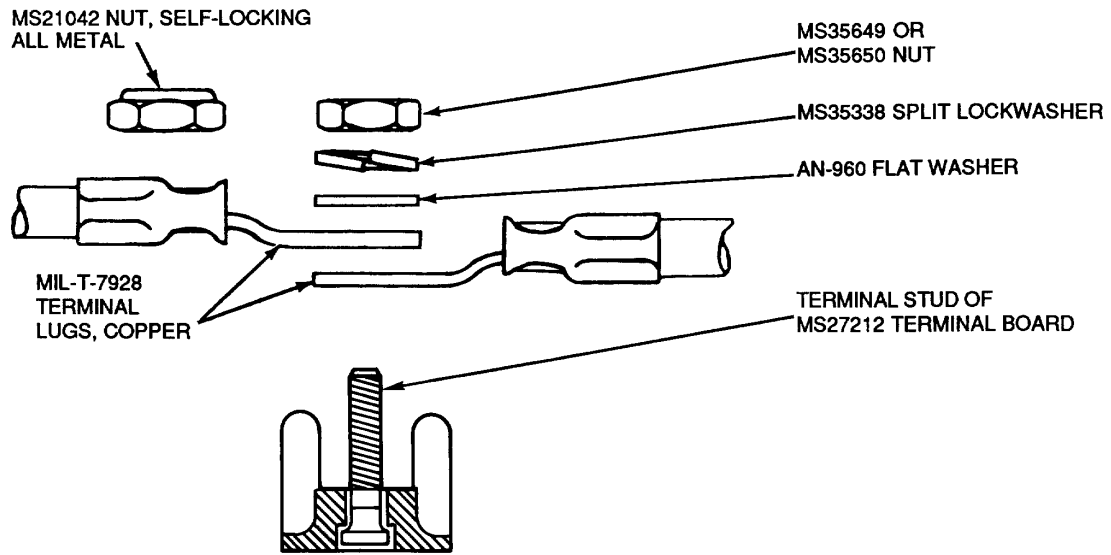

Figure 14. Hardware for Wiring Terminal Boards with Copper Terminals
28. **ATTACHING COPPER TERMINALS.** To attach copper terminals to terminal boards proceed as follows (Figure 14):